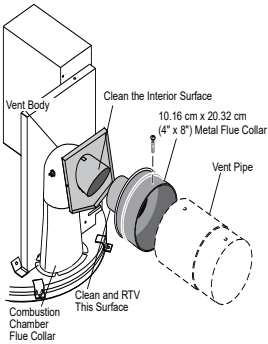

Figure 18.
(See Figures 18, 19, and 20)
- at least 76 mm (3 in) and at most 304 mm (12 in) out from the wall (see Figure 18), following the vent manufacturer's instructions